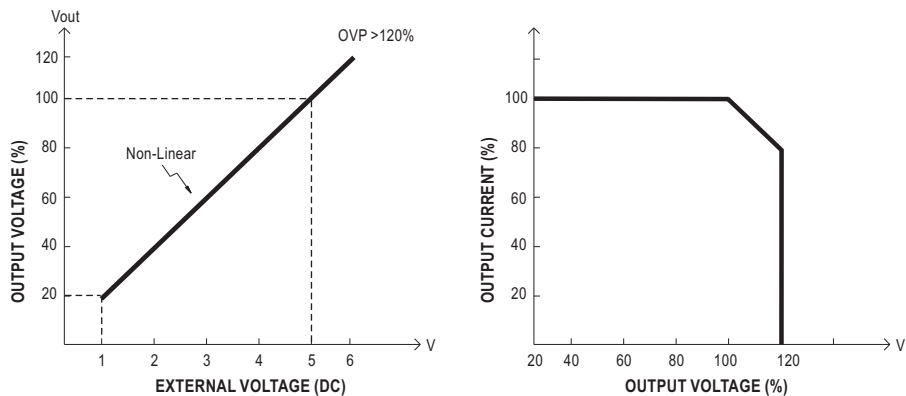

Fig. 3.2 Output voltage trimming
- (2) Adjustment of output voltage is possible between 20~110%(Typ.) of the rated output which is shown in Fig. 3.2. Reducing output current is required when the output voltage is trimmed up.